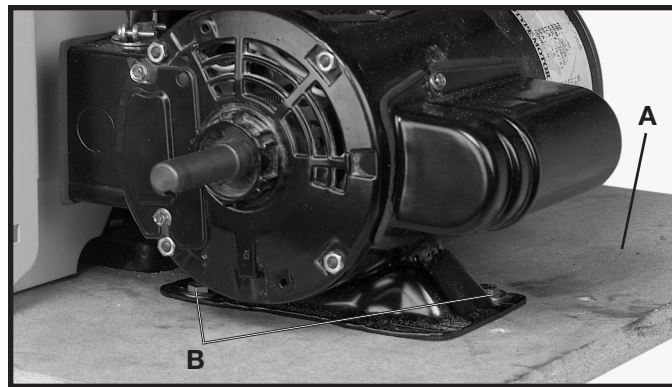

Fig. 2
1. Remove the cardboard box from around the packing skid (A) Fig. 2.
2. Remove the two bolts (B) Fig. 2, with a 1/2" wrench, that attach the motor to the packing skid (A)